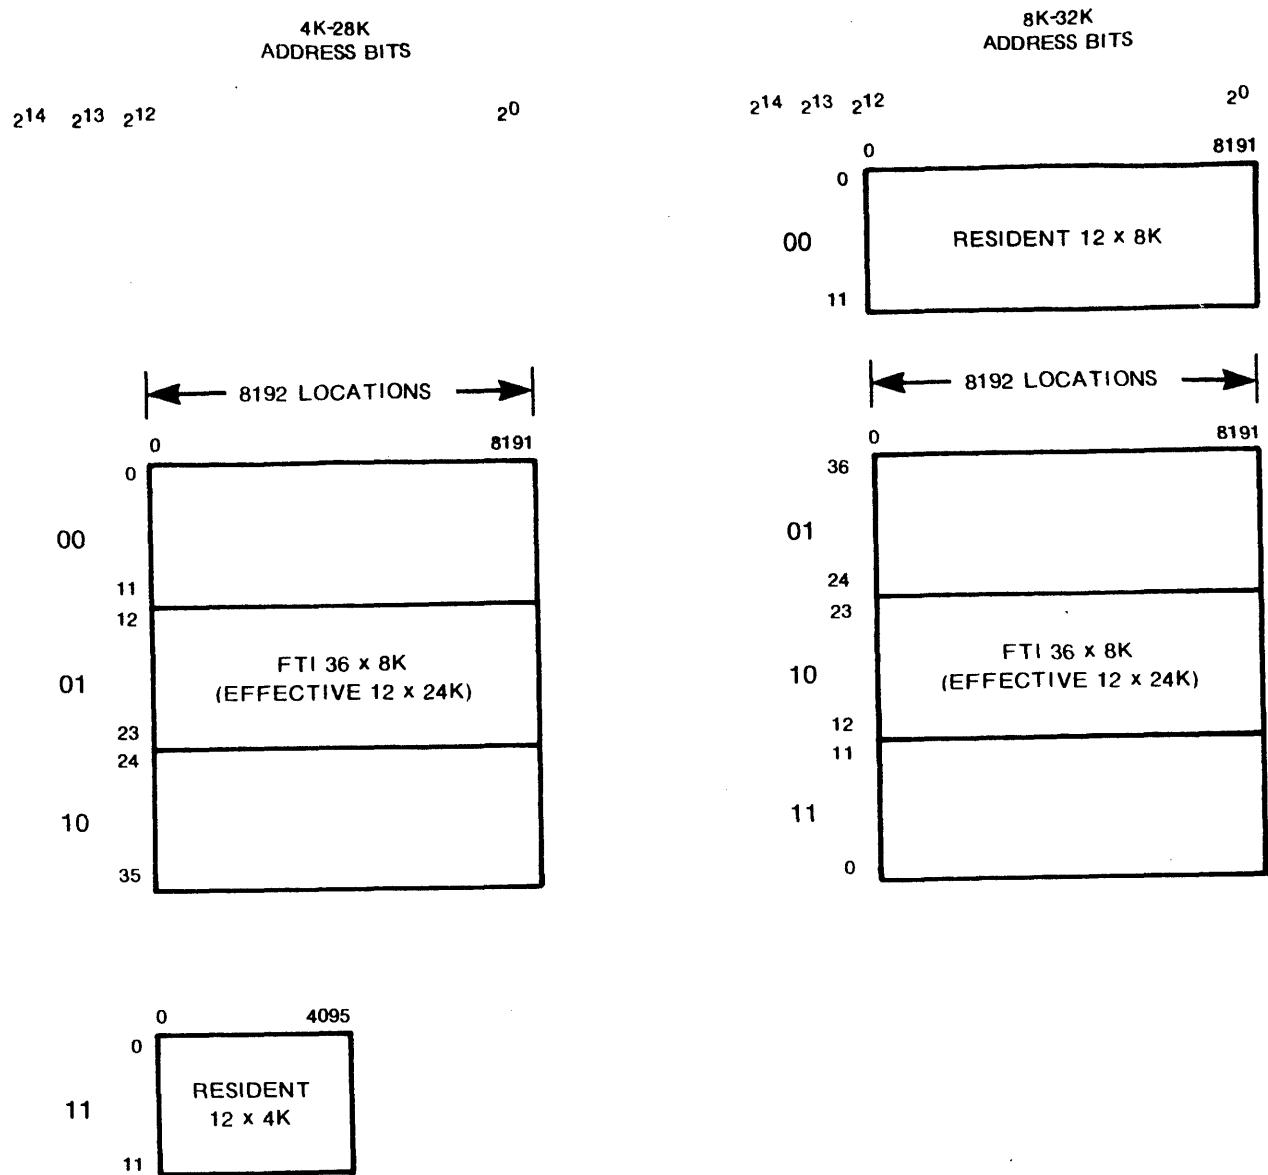

Figure 4-3
Address oriented errors originate in the Current Drive section. All bits of a data word in error and addresses of errors with definite patterns are characteristics of address oriented errors. Use Figure 4-2 as an aid to troubleshooting. Figure 4-3 illustrates the configuration of the Core Arrays.
**WORD LOCATION.** Decode address bits  $2^{13}$  and  $2^{14}$  to identify the malfunctioning 12 bits of each 36 bit location in the Core Array. Table 4-1 and Figure 4-3 provide the corresponding bit positions for each decode. The remaining 13 address bits determine the location within the Core Array.